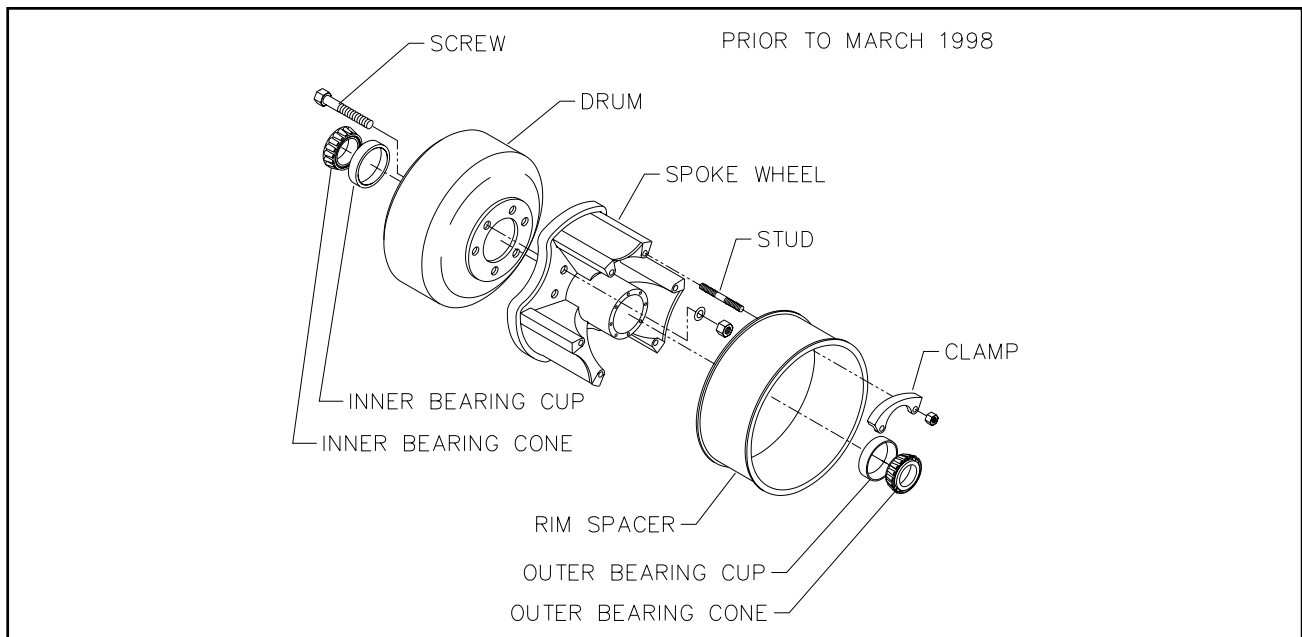
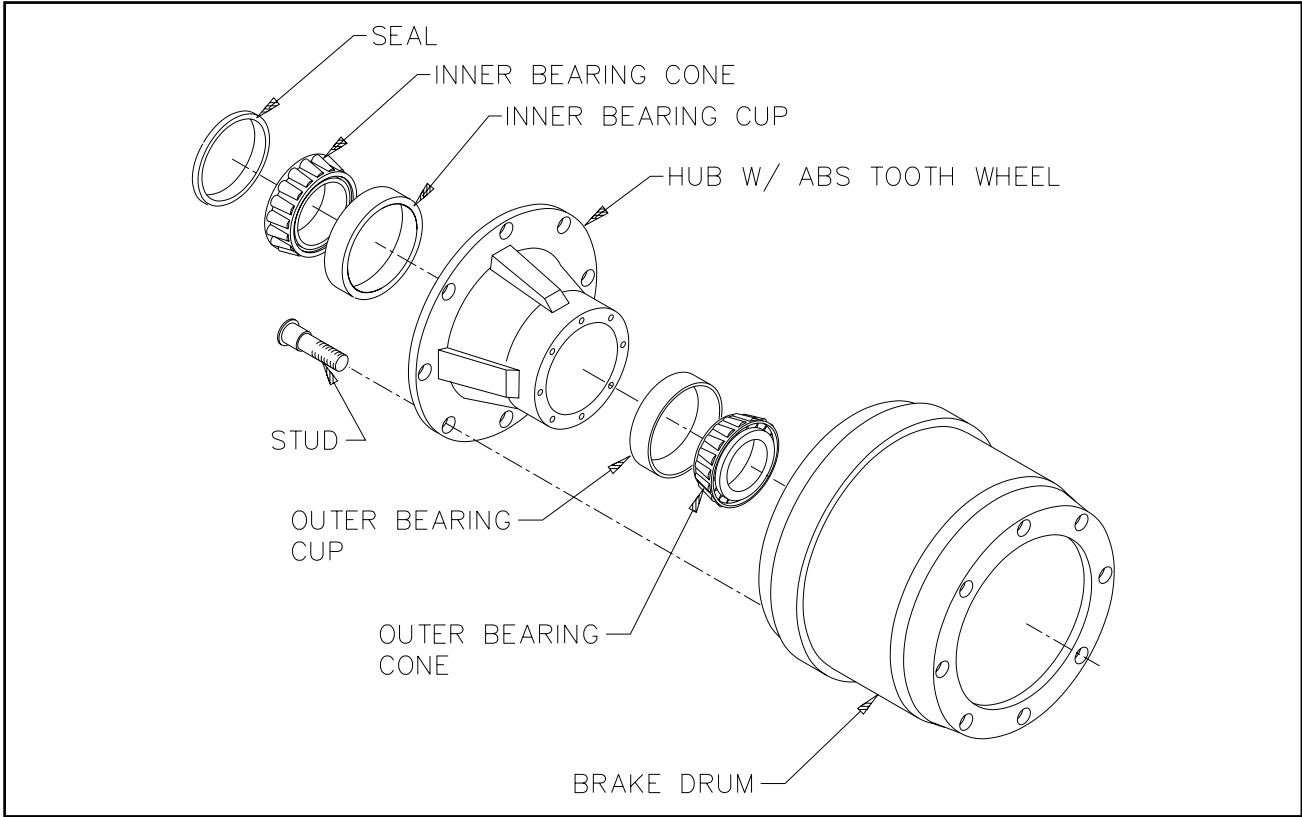
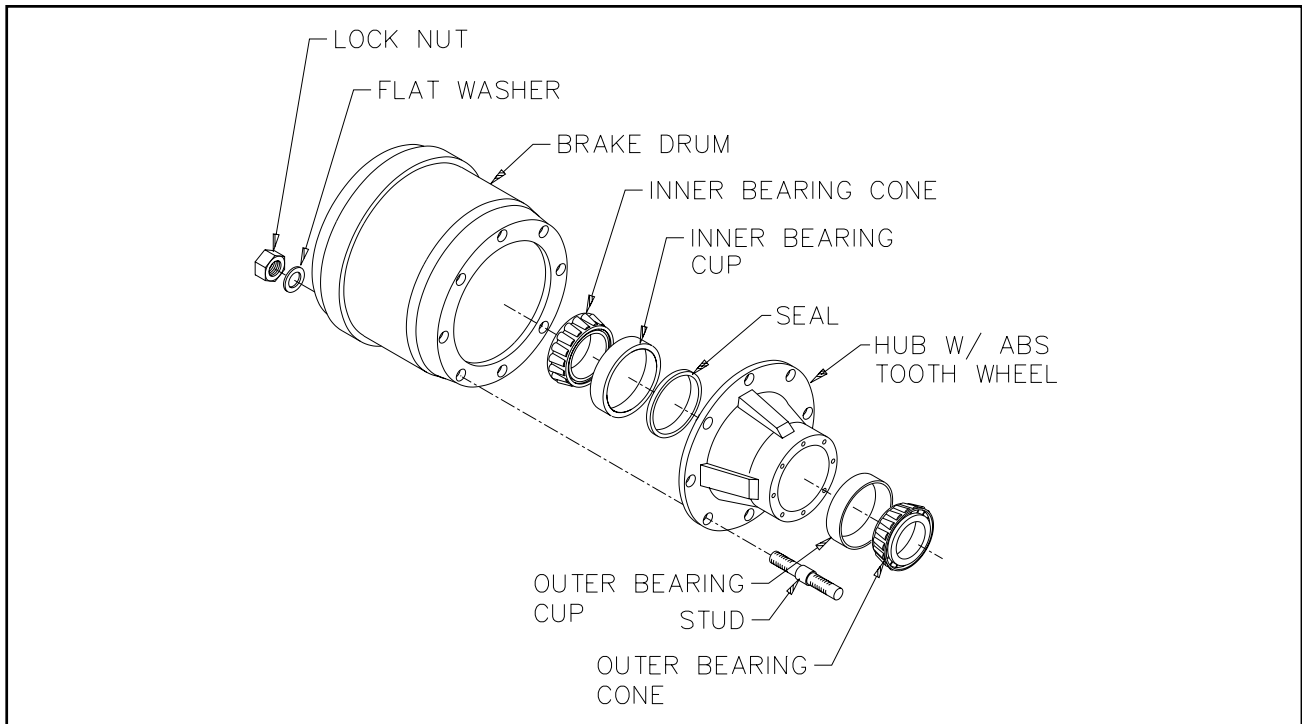

Figure 4-12 Three Spoke Wheel and Drum
Figure 4-13 Outboard Mount Hub and Drum
Figure 4-14 Inboard Mount Hub and Drum
- 4-9.4** Replace the hub and drum as follows (See Figures 4-12, 4-13, and 4-14):
- For outboard mount hub and drum remove the brake drum (See Figure 4-13). It may be necessary to release the slack adjuster. For inboard mount (See Figure 4-14) and spoke wheel (See Figure 4-12) remove drum after hub.
- For Outboard Mounted Brake Drum (See Figure 4-13) place the drum over the hub and brake shoes being careful not to damage the threads on the studs. Make sure the drum seats flat against the hub flange and mates properly with the hub pilot. There should be no interference between the brake drum pilot chamfer and the corner radius on the hub. If interference exists, the hub will not be able to function properly.